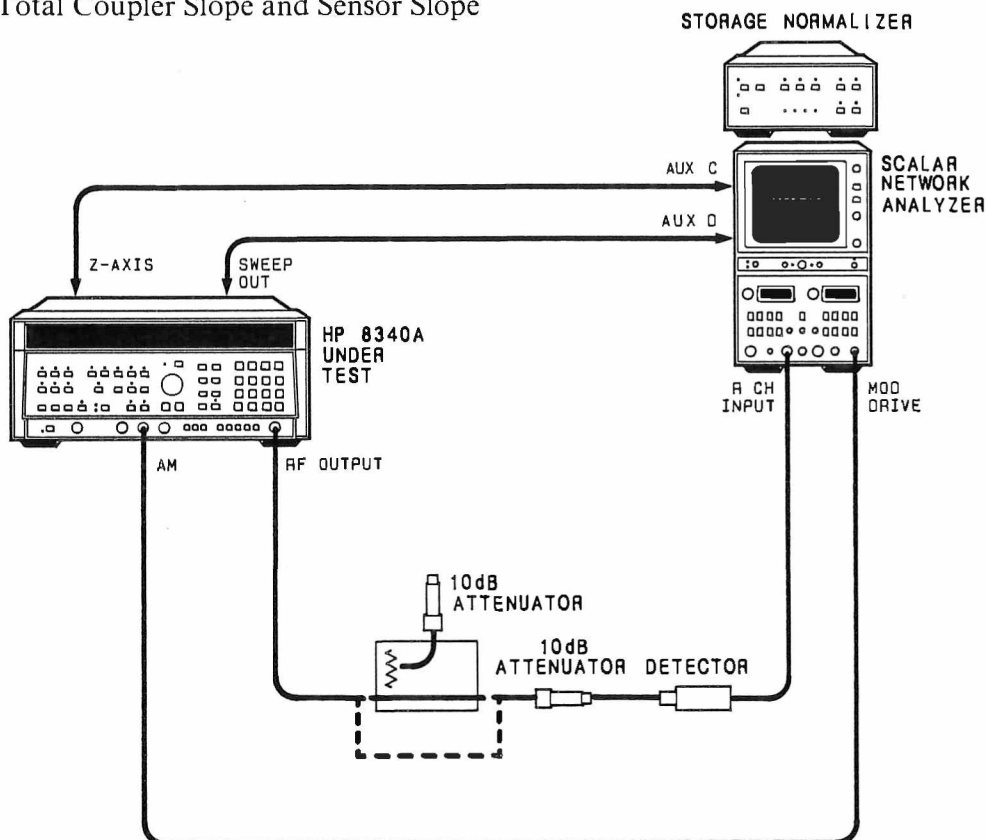

Figure 5-59. Coupler Slope Characterization Test Setup
10. Connect equipment as shown in Figure 5-59. Connect 10 dB Attenuator and 11664B Detector directly to HP 8340A RF Output. Allow at least 30 minutes warm up. Press HP 8340A [INSTR PRESET]. Press [START FREQ] and enter [2] [.] [4] [GHz]. Stop frequency should be 26.5 GHz. Press [SHIFT] [PULSE].
12. Insert the directional coupler and the second 10 dB attenuator as shown in Figure 5-59. Press 8750A [INPUT - MEMORY]. Press HP 8340A [SLOPE] ON. Adjust the HP 8340A front panel rotary knob for the best straight line on the 8755C trace. Note the HP 8340A ENTRY DISPLAY value for slope. This is the correction factor for the coupler which will be used in subsequent steps.